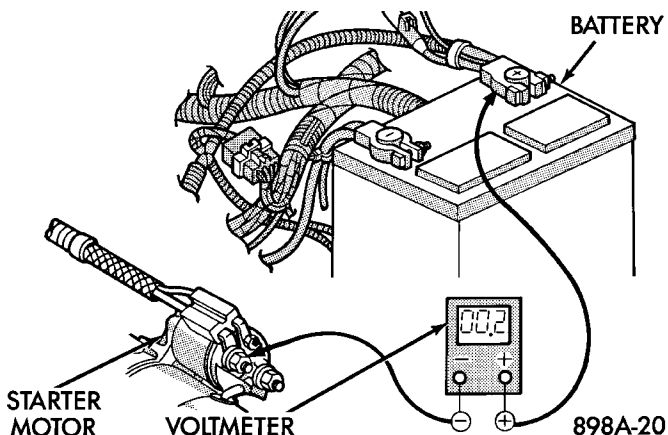

Fig. 12 Test Battery Positive Cable Resistance - Typical
(3) Connect the voltmeter to measure between the battery positive terminal post and the starter solenoid battery terminal stud (Fig. 12). Rotate and hold the ignition switch in the Start position. Observe the voltmeter. If the reading is above 0.2 volt, clean and